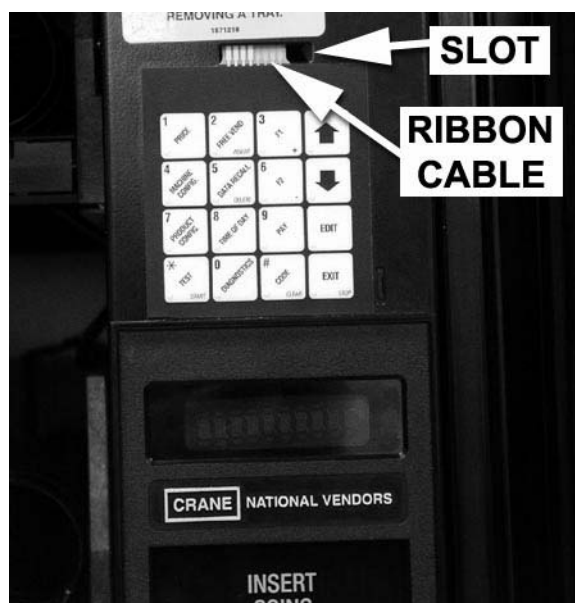

Figure 32
3. Using a small putty knife or other flat-bladed tool, carefully pry the maintenance keypad off the monetary door (figure 32).
4. Feed the ribbon cable out through the slot in the monetary door (figure 32).
1. Feed the new maintenance keypad’s ribbon cable through the slot in the monetary door (figure 32).